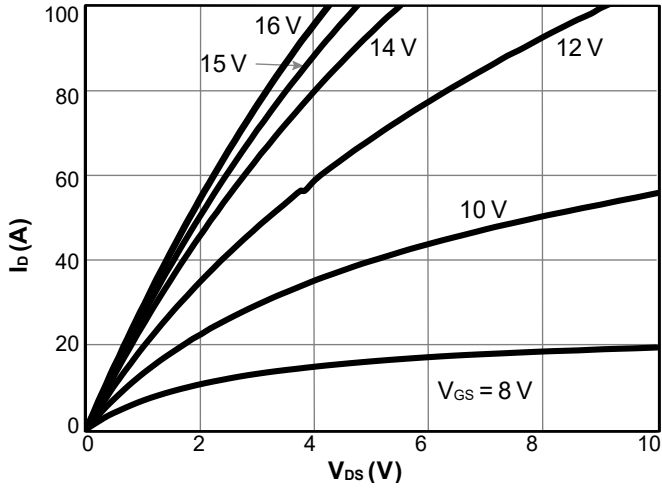

Figure 1. On-Region Characteristics  $T_J = 25^\circ\text{C}$
- The static characteristics in Figures 1 to 8 are obtained using < 300 ms pulses, duty cycle 0.5% max.